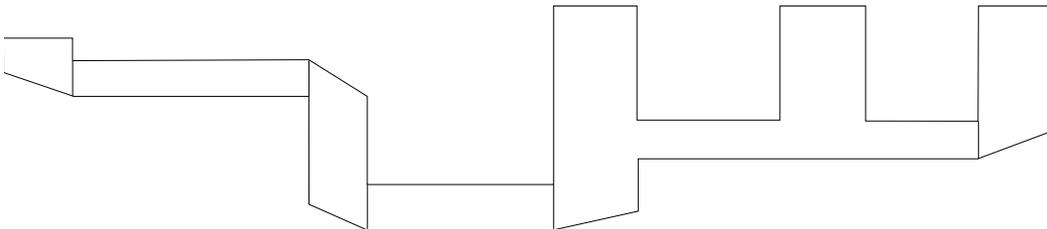

Figure 4-6. MAP/100C – SCSI Cable
6. With the MAP/100C SCSI cable in hand, notice that the SCSI cable is pre-folded and has a connector on it located on one end that is approximately 36 inches from the next connector. See Figure 4-6.